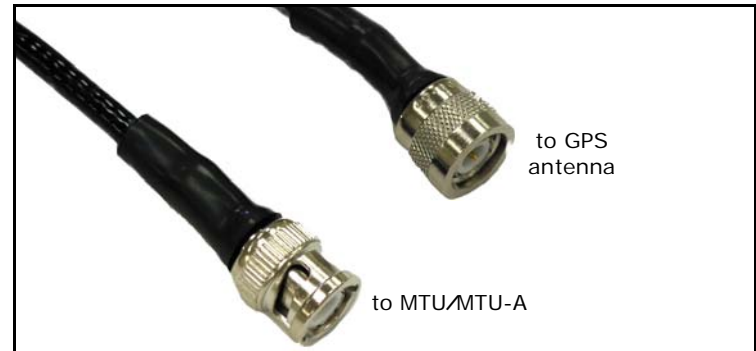

Fig. 2-6: GPS antenna cable connectors.
1. Screw the threaded connector of the antenna cable to the underside of the antenna head. (See Fig. 2-6.)